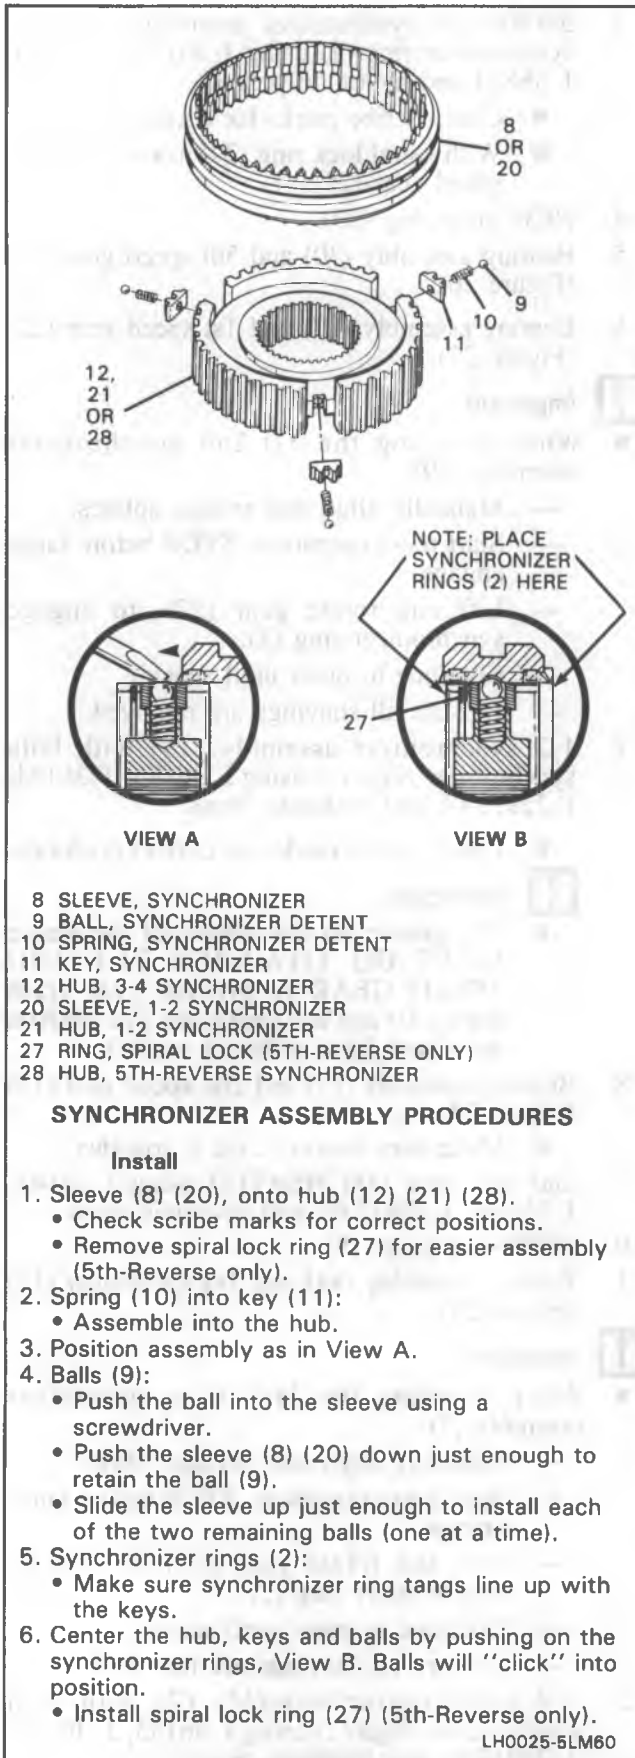

Figure 24 Synchronizer Assembly Procedure
- race (34) and (36)
- 2WD speed sensor rotor (45)
- 2nd speed gear race (16)
1. Synchronizer assembly procedure (7), (19) and (26), (Figure 24).